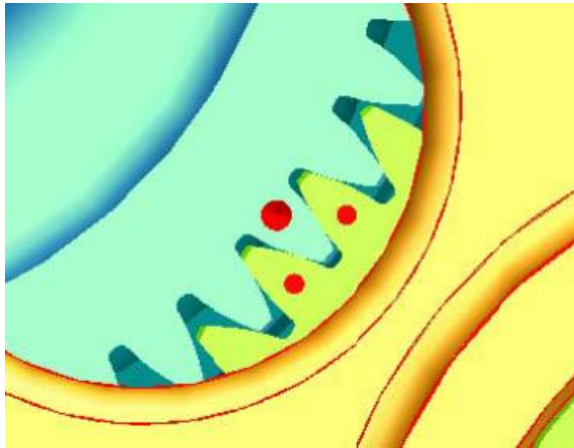

Fig. 4-58 Fuel injection pump gear marks
- (1) Install fuel injection pump flange, apply a small amount of lubricating oil on pump rubber ring;
- (2) Screw on the hexagon bolts to connect fuel injection pump and the flange;
- (3) Install injection pump gears, specification of fuel injection pump gear lock nut is M24×1.5, tighten the nut to 250~300Nm directly;
- (4) Install the three pump fixing studs on engine block;
- (5) Rotate the flywheel until cylinder 1 reaches compression TDC, at this point rotate injection pump gears until the mark on injection pump gear module is aligned to mark on injection pump flange, install injection pump module. Insert a $\Phi 4$ pin into the corresponding hole on middle flange and pump gear, pull out the pin after fastening common rail module, and seal the hole up with M5 screw (applied with sealant). After the assembly, the mark on driving gear of injection pump should be aligned to mark on driven gear. As shown in Fig. 4-58. Tighten the hexagon nuts to fasten the injection pump on gear housing.